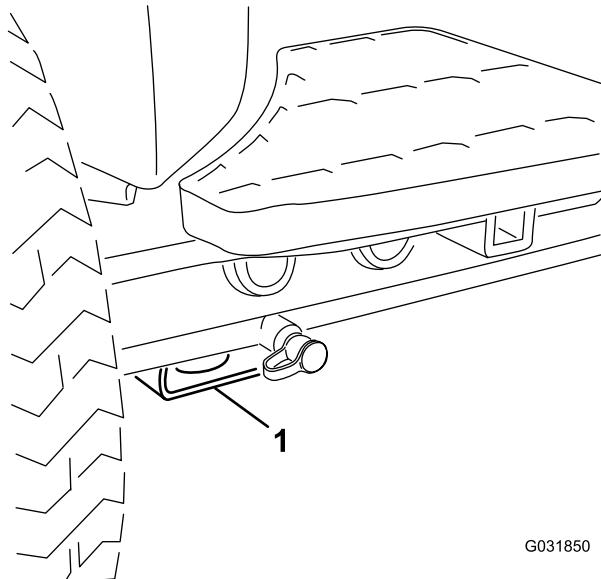

Figure 63
- **Front of the machine**—rectangular pad, under the axle tube, inside each front tire (Figure 63).